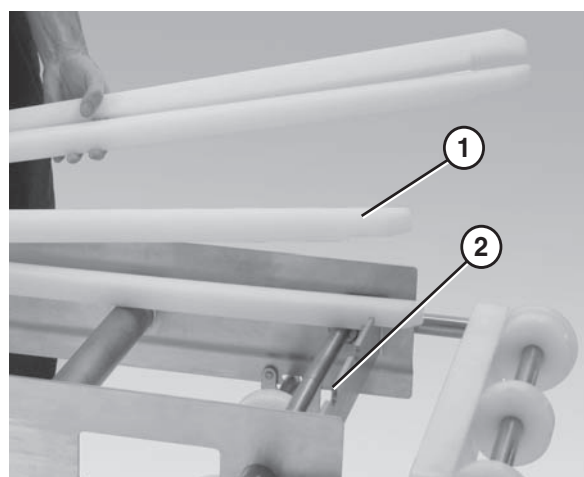

Figure 31
1. Position the wear strips (**Figure 31, item 1**) on the frame.
2. Make sure the wear strips are situated securely in the frame slots (**Figure 31, item 2**).